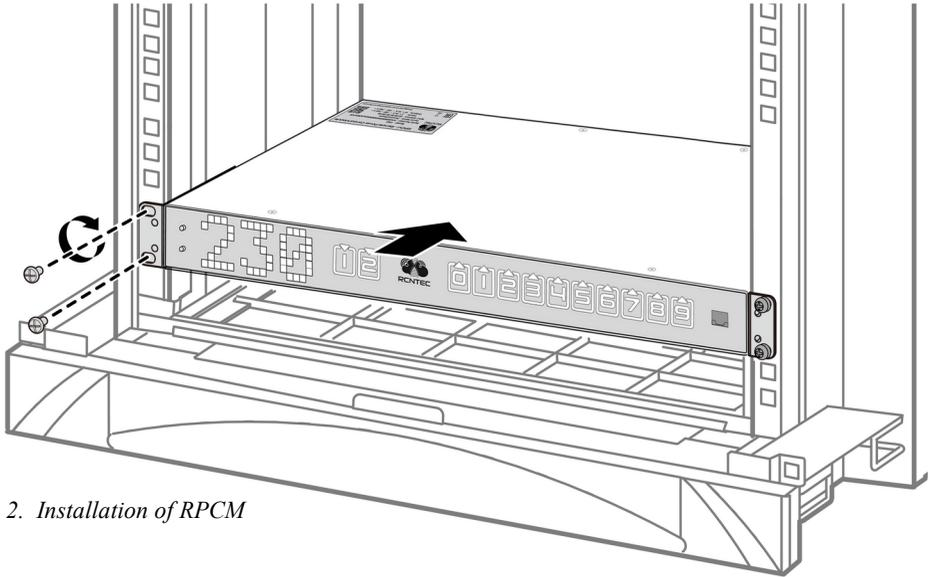

Fig. 2. Installation of RPCM
2. Place RPCM on the rack and secure it as shown in Fig. 2.